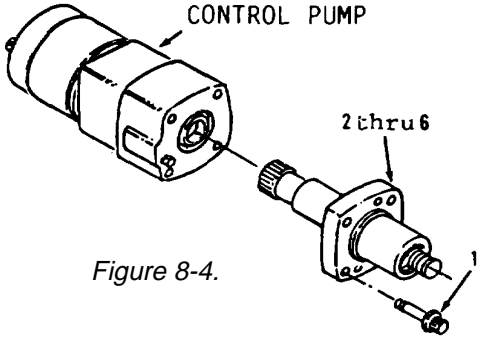

Figure 8-4.
1. Remove four bolts (1) and items 2 thru 6 as an assembly (Figure 8-4) from control pump.